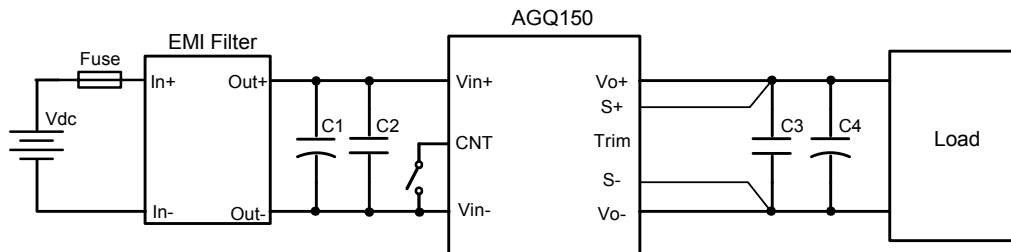

Figure 11 Typical application
| Recommended input fuse                     |                            |      |         | 15   | A                | Fast blow external fuse recommended; Figure 11 |
| Recommended external input capacitance     |                            |      | 100     |      | μF               | Low ESR capacitor recommended; Figure 11       |
Figure 5 Dynamic response for 25% load step (25% ~ 50% ~ 25%) and 0.1A/µs slew rate, (2ms/div), see Figure 11 for test configuration; CH1-output voltage (100mV/div); CH2-output current (10A/div)
Figure 6 Dynamic response for 25% load step (50% ~ 75% ~ 50%) and 1A/µs slew rate, (2ms/div), see Figure 11 for test configuration; CH1-output voltage 50mV/div; CH2-output current (10A/div)
- C1 ~ C4: See Figure 11